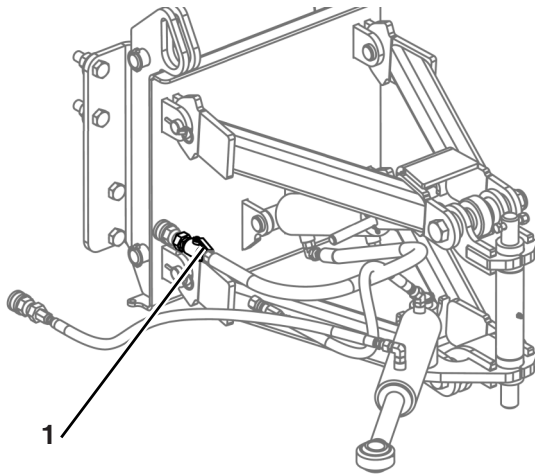

Figure 7-12
15. Use the hydraulic broom lift lock to secure broom in the raised position (Figure 7-12). This will prevent a flat spot from forming on the broom bristles.